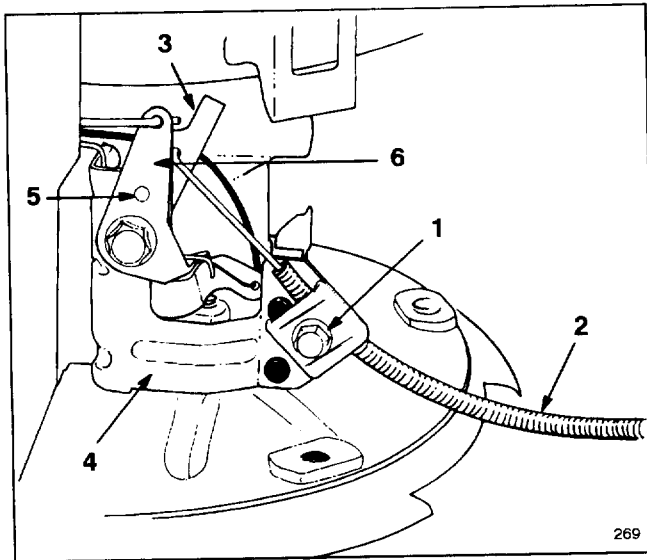

Figure 15
3. Loosen cable clamp screw until throttle cable slides (Fig. 15). Align holes in choke arm and throttle bracket. A small diameter pin may be inserted into aligned holes to hold adjustment. Push throttle cable until throttle arm makes contact with choke arm. Tighten cable clamp. Remove pin if used.